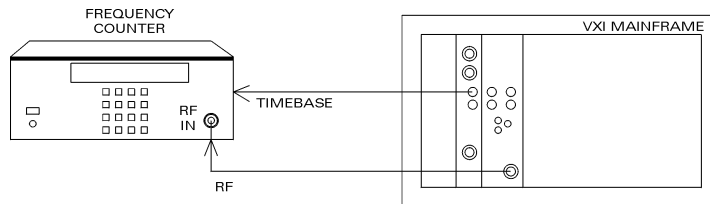

Figure 4-2: Frequency Range, Resolution, & Accuracy
1. Connect the equipment as shown in Figure 4-2. Allow the equipment at least 30 minutes of warm-up. Since the Series 50000B and the counter use the same time base, time base errors are eliminated.